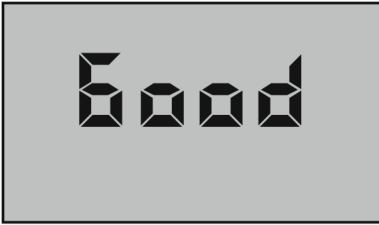
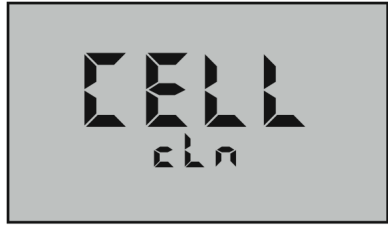

Figure 22
Figure 23
4. Press  to test. If cell is clean, “**Good**” will momentarily be displayed (see Figure 22). If cell is dirty, “**CELL cLn**” will be displayed (see Figure 23) (ref. Cleaning Sensors, pg. 50).